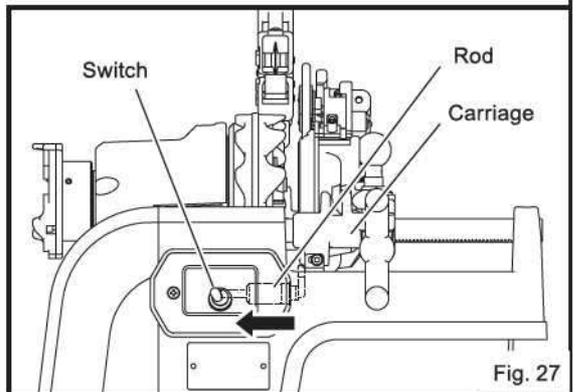

Fig. 27
13. Carriage collision prevention mechanism (Fig. 27)